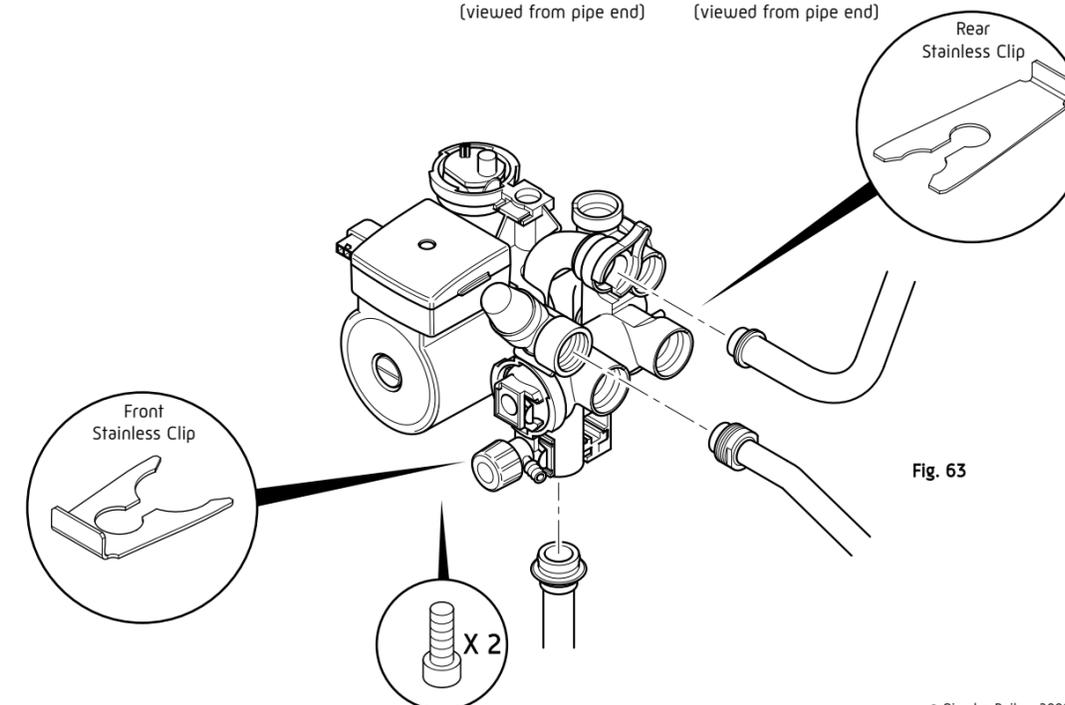

Fig. 63
2. Remove the stainless clip at the base of the hydro-block and disconnect the pipe (Fig. 63).